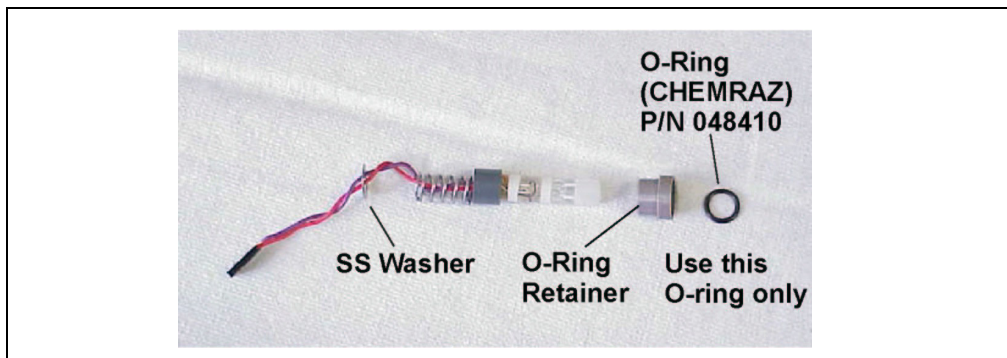

Figure B-8. Reference Electrode Parts
3. Verify that you have all of the parts shown in Figure B-8.